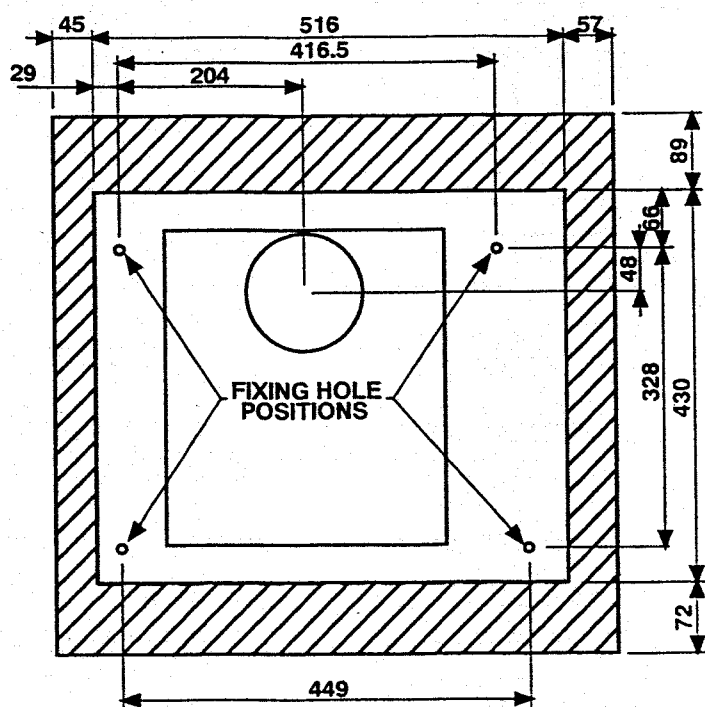

Fig. 2a. Fixing template (Slimline 8S)
2. Select a position for the heater using the template supplied and mark the position of the flue ducting and the four fitting points, ensuring that the template is vertical. (Fig 2a or 2b depending on model).